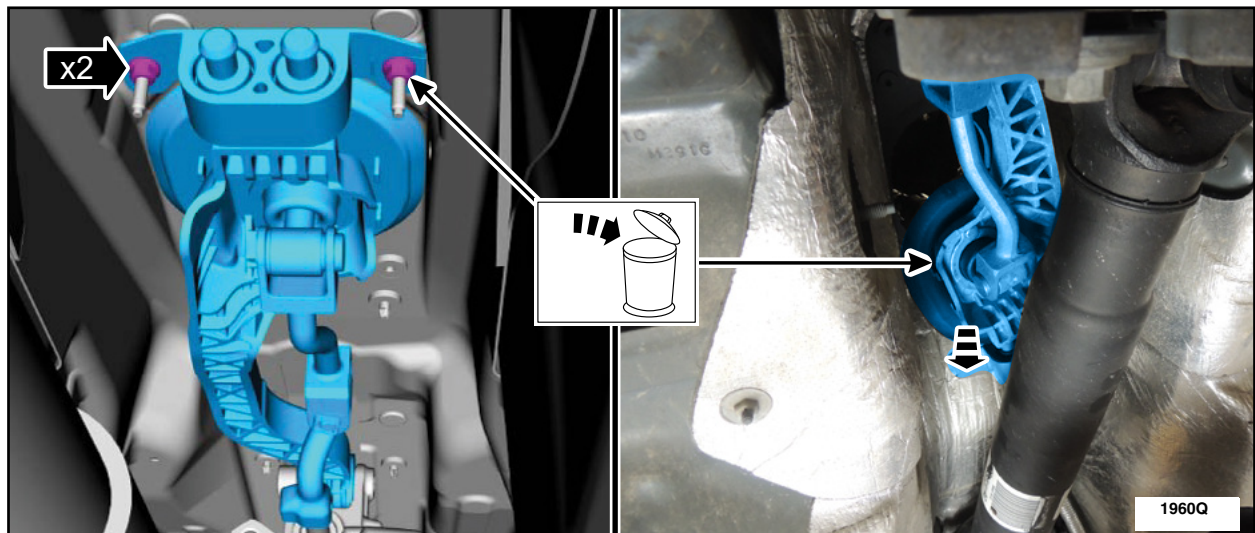

FIGURE 16
17. Remove and discard the gearshift lever nuts and the gearshift lever assembly. See Figure 16.
19. Install the *new* gearshift lever assembly and nuts. See Figure 16.